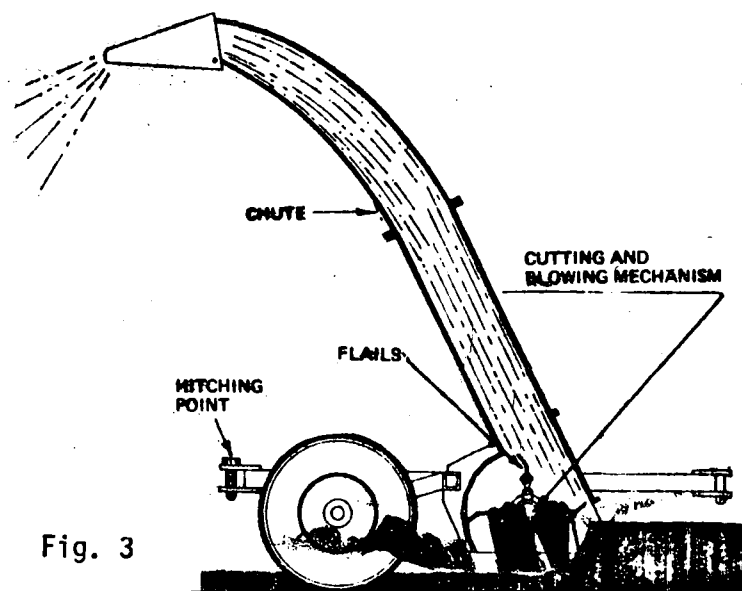

Fig. 3
*Single-cut mechanism.* It consists of a rotor which cuts the standing forage and blows or sends it through a discharge chute into the trailer. Figure 3 shows the parts common to this group.